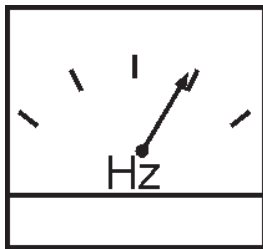

Figure 25. Frequency Meter (Hz)
6. The generator's frequency meter (Figure 25) displays the 60 cycle output frequency in **HERTZ**.